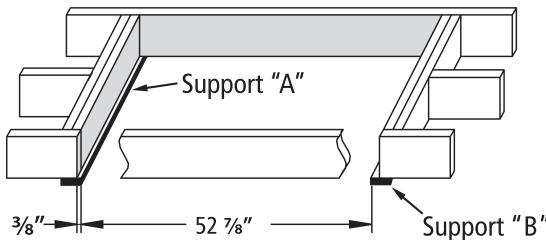

FIGURE 5: View from above
Support "A" should be located at the end where the door hinge of the ladder will go. The edge of support "A" should extend into the rough opening $\frac{3}{8}$ " as shown in Figure 5. Make sure both screws penetrate header above ceiling.
B. Measuring from the inside edge of support "A", locate and secure the inside edge of support "B" $52 \frac{7}{8}$ " from inside edge of support "A" (Figure 5). Make sure both screws penetrate header above ceiling.